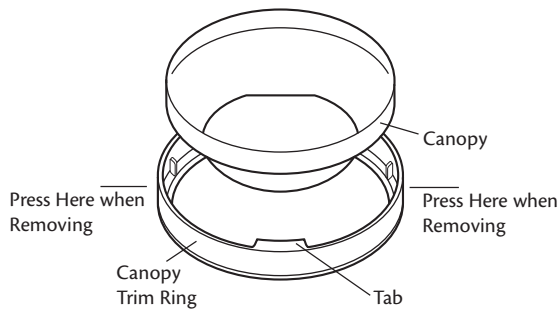

Figure 20 - Canopy trim ring
- To easily install the canopy trim ring, locate the two tabs on the canopy trim ring. See Figure 20.
- Take both hands and push the canopy trim ring up to the top of the canopy. See Figure 20.